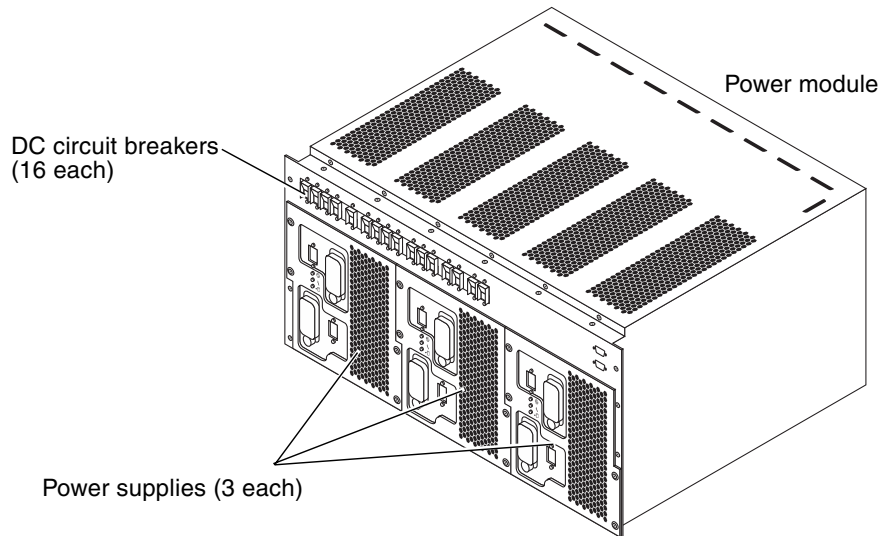

FIGURE 2-9 Circuit Breakers and Power Supplies
2. Ensure that all DC circuit breakers at the front and rear power modules are in the On position (FIGURE 2-9).